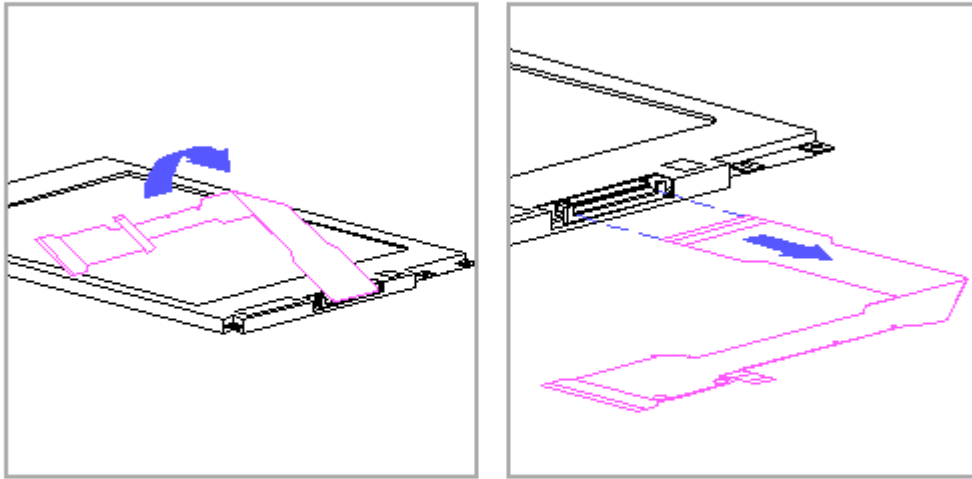

Figure 3-20. Removing the Display Cable from the Rear of the LCD Panel
5. Remove the display cable from the rear of the LCD panel by gently pulling the cable toward you (Figure 3-20).
6. Carefully lift up on the ZIF connector to release the display cable from the side of the LCD panel (Figure 3-20).